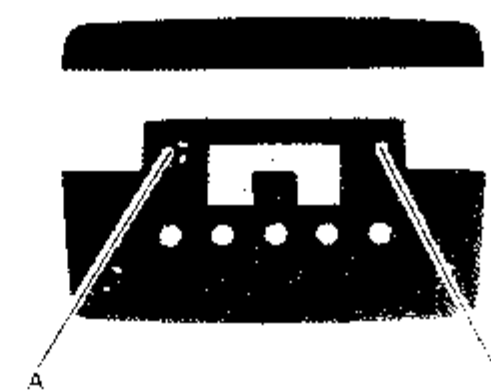

Fig. 1
1. Remove the battery cover. Remove all batteries, and locate the screws A and B in the battery chamber. Refer to Fig. 1.